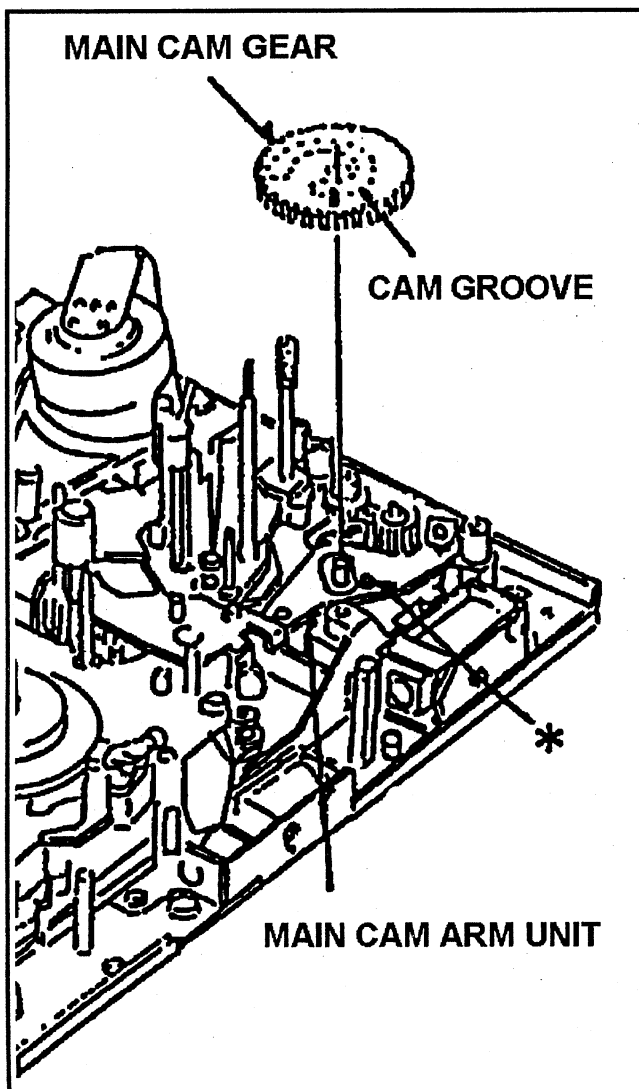

Fig. 6-19-1 Removal of Main Cam Gear
3. Remove the Pinch Solenoid Unit (Refer to item 6-8) and Loading Motor Neutral Unit (Refer to item 6-4).
4. Remove the Main Cam Gear as shown in Fig. 6-19-1.
1. Install the Main Cam Gear so that the pin of Main Cam Arm Unit (*) should be matched with the groove position of Main Cam Gear as shown in Fig. 6-19-1.
3. After installation, Pinch Solenoid Position Adjustment is required (Refer to item 5-3).